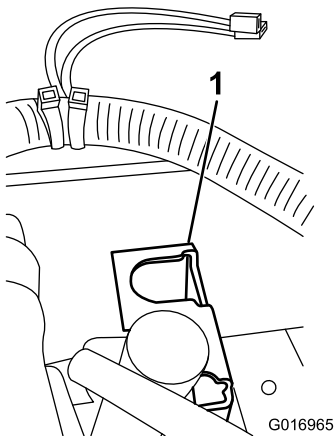

Figure 6
3. Move the radiator overflow tank to locate the round hole in the mount plate (Figure 6).